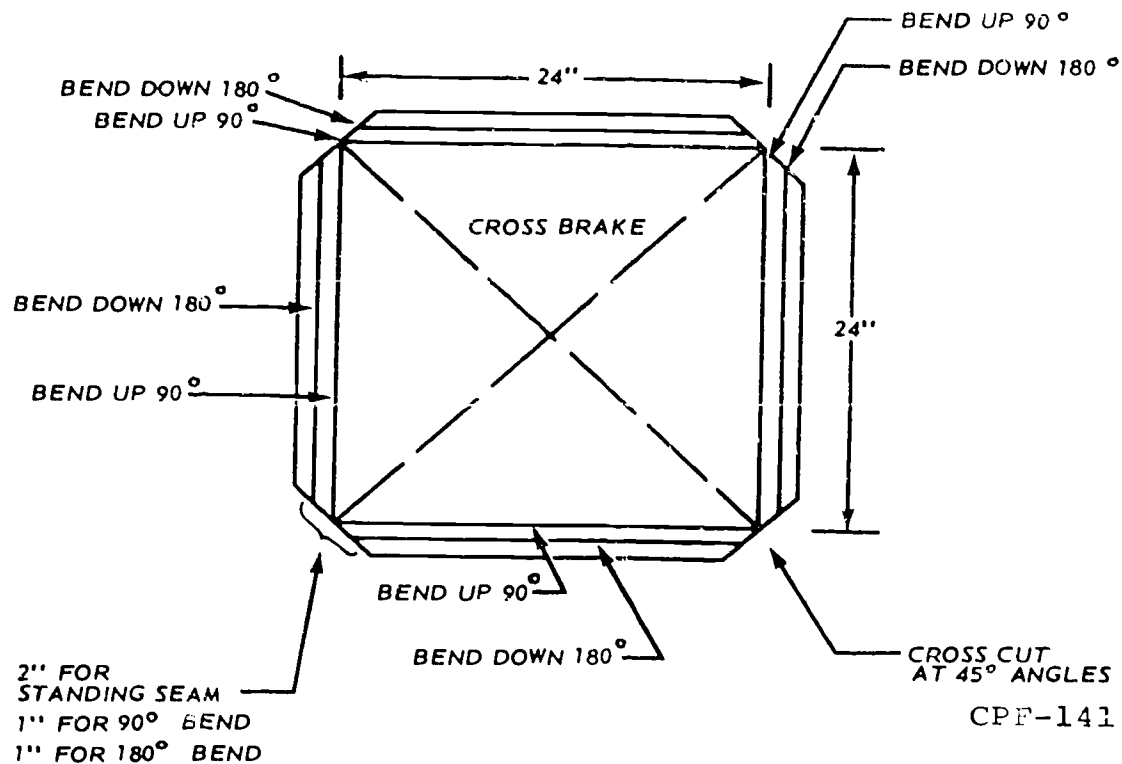
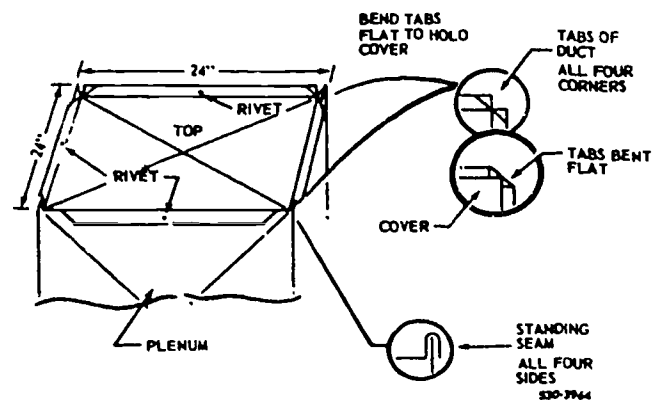

Figure 4-14. Pattern for top of plenum.
Figure 4-15. Standing seam used with plenum top.
**Plenum top and duct end patterns.** The pattern for the top of the plenum is shown in figure 4-14. This pattern, except for its dimensions, is the same as the patterns for the end covers of trunklines A, B, and C. The standing seams in these pieces are shaped like the seam in figure 1-1 B-1. With standing seams on all four sides, the 24" x 24" plenum top fits tightly over the 24" x 24" opening in the plenum, as shown in figure 4-15. When the top is installed, the standing seam acts as a stiffener and strengthens the plenum. In figure 4-14 you can see how 2 inches are allowed on all four sides for the standing seams, and the instructions for bending, corner notching, and cross braking are given. This pattern is developed by the parallel line method of layout.
The corners of the patterns for the plenum top in figure 4-14 are cut at 45° angles. See how a single cut at each corner makes the slant notches for each adjoining side of the pattern plus slant notches for each 1-inch portion of the standing seam. Make these slant notches with squaring shears or straight snips.
**Plenum top and duct ends.** You form the top for the plenum and the ends for the three trunklines by cross braking and making the bends indicated in figure 4-14 with a cornice brake. These components do not need to be assembled because they are in one piece.